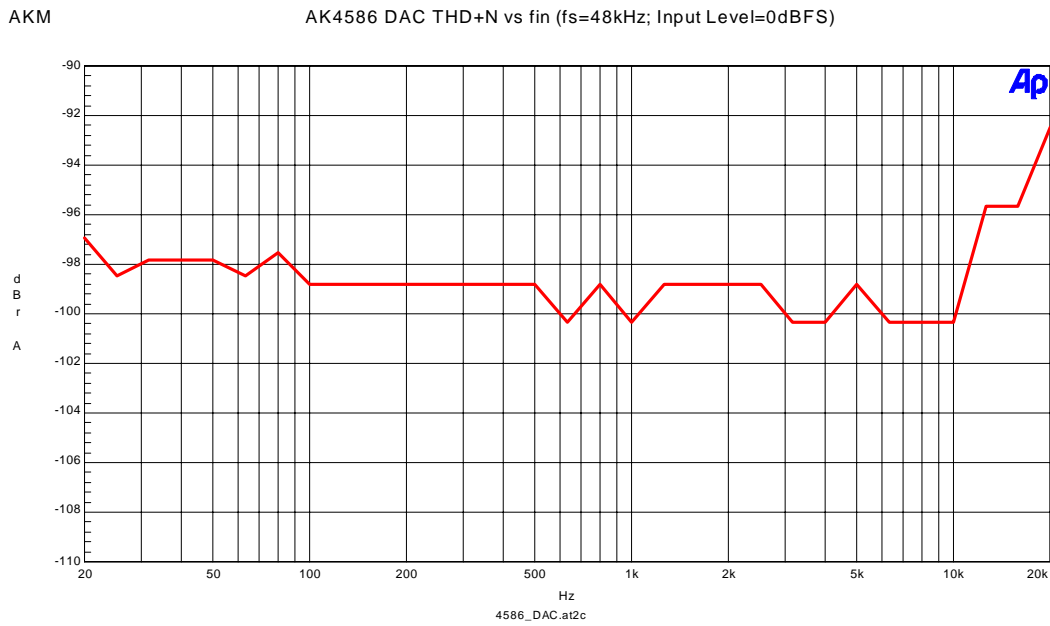

Figure 3-6. THD+N vs fin (Input Level=0dBFS)
- Figure 3-6. THD+N vs fin (Input Level=0dBFS)